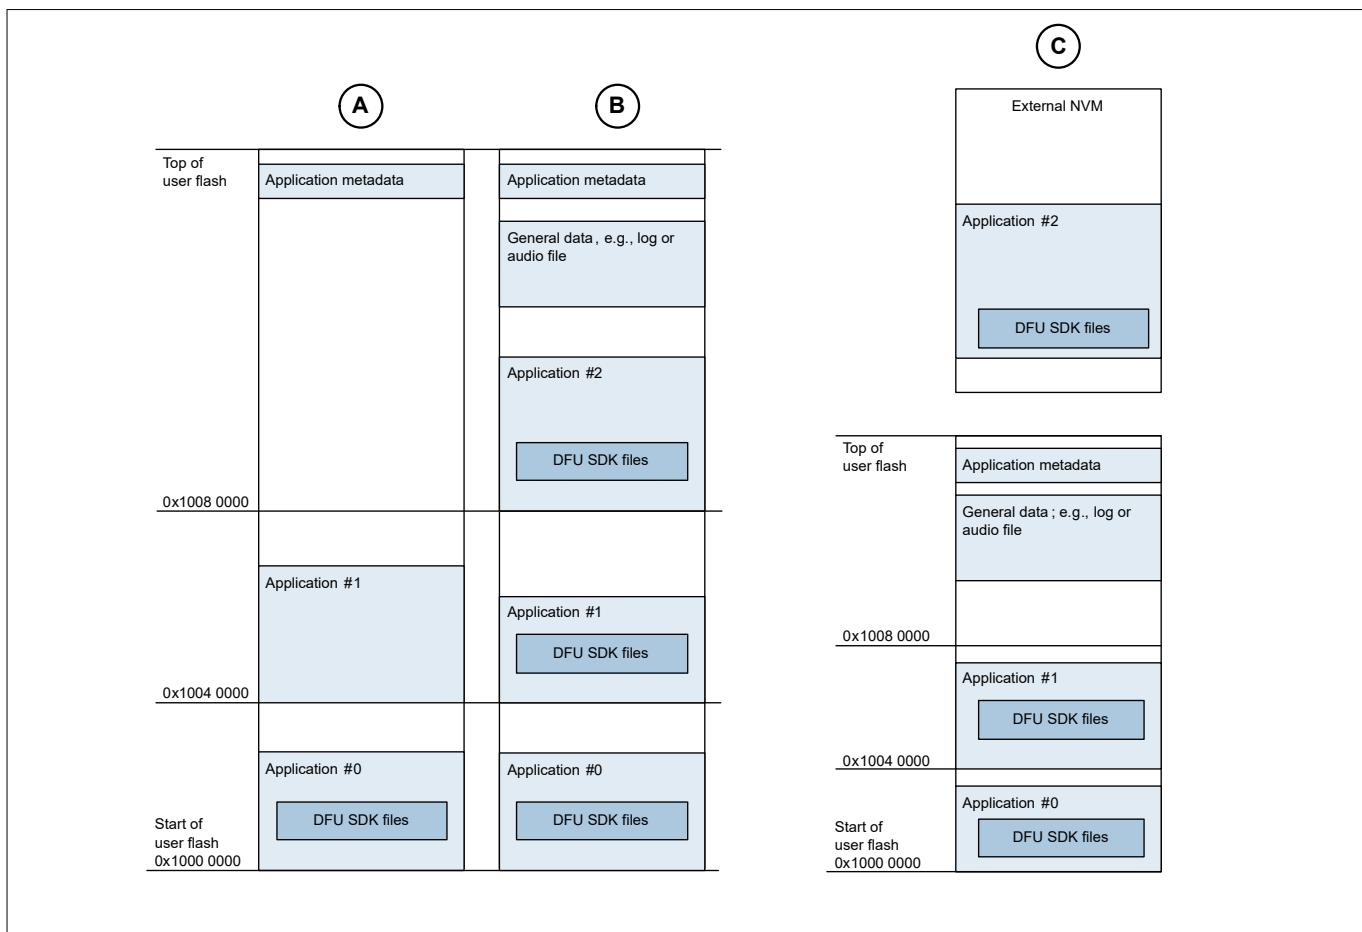

Figure 569
The first step is to decide how many applications are to be in your design, and the purpose of each. Which applications will have DFU capability? Figure 569 shows some typical memory maps for multiple applications:
- The first application, usually called “App0”, must be located at the beginning of user flash, which in PSoC™ 6 MCU is at address 0x1000 0000, as Figure 569 shows. This is the first application to execute after device reset⁴⁰⁾.
- Applications may reside in external memory as well as the device’s internal flash, as map **C** in Figure 569 shows. External memory is in a 128-MB sub-region from 0x1800 0000 to 0x1FFF FFFF
- NVM data that may be updated during the normal workflow, for example an events log, should not be part of an application, because it makes the application difficult to validate. Instead, designate a region of NVM that is outside any application’s space and use it for data storage. Figure 569 shows two examples in maps **B** and **C**
- Reserve one row of flash for application metadata, as Figure 569 shows. (In rare cases more than one row may be required.) Application metadata is managed by the DFU SDK and is used by applications to transfer control to another application. Application metadata space should be outside any application space